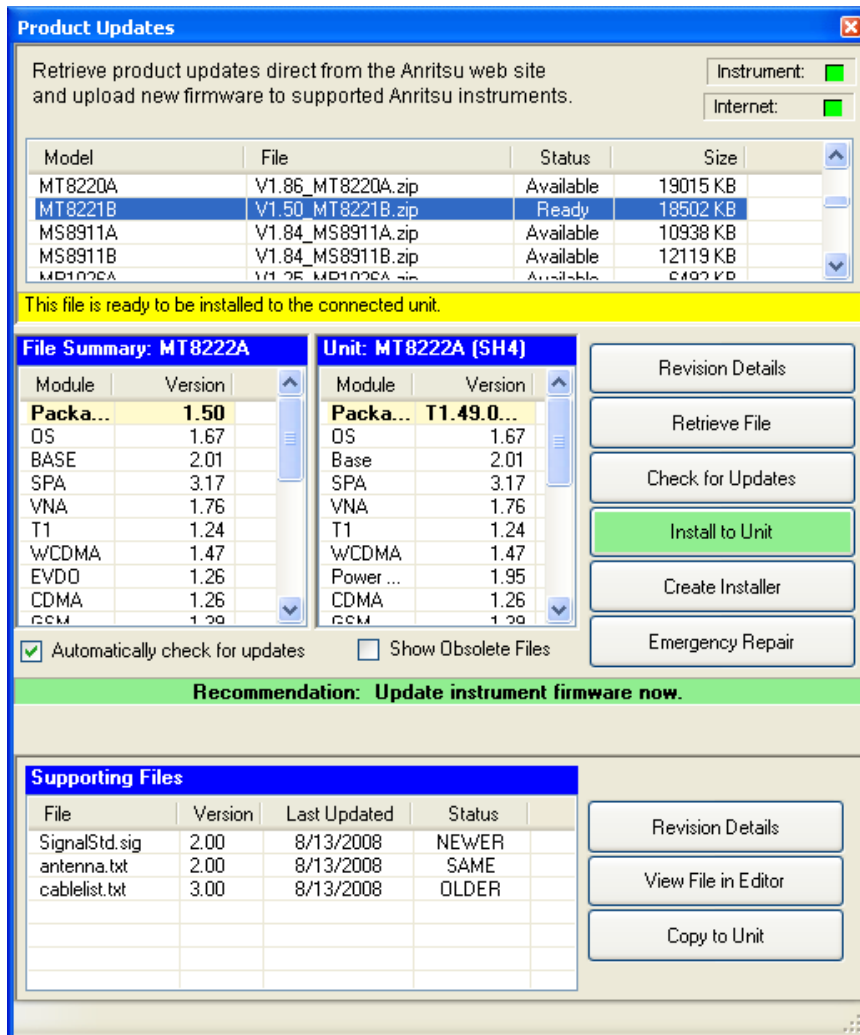
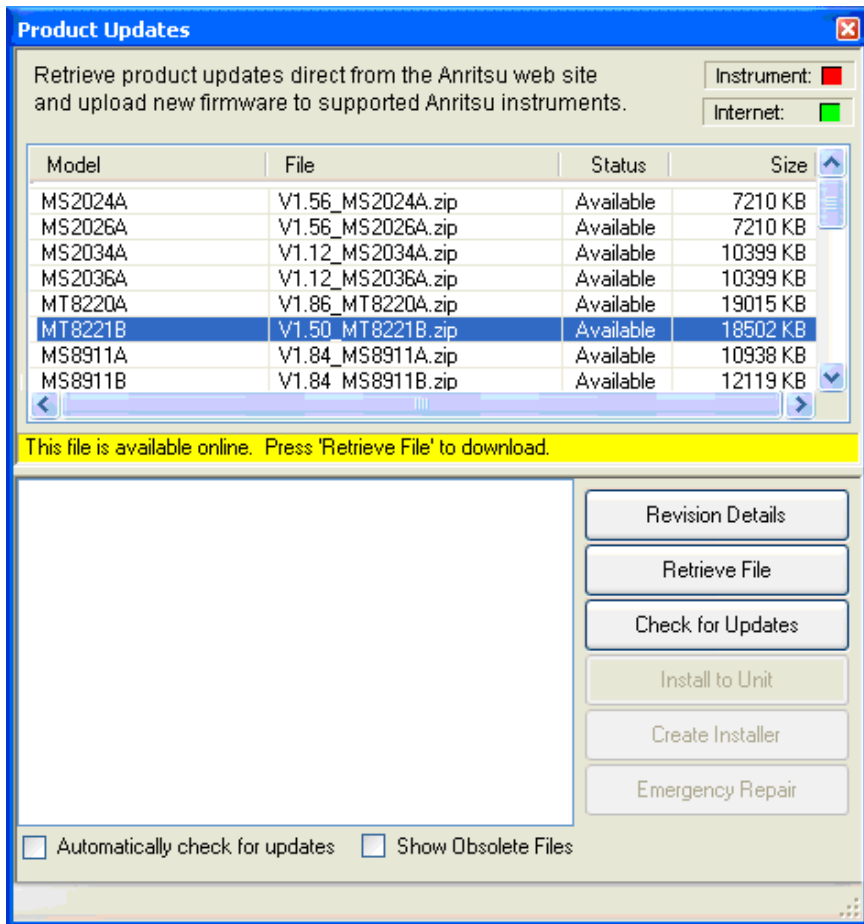

Figure 7-3. Product Updates Window: Status Ready
Figure 7-4. Product Updates Window: Status Available
5. Notice the differences in the two Product Updates windows in Figure 7-3 and Figure 7-4.
In Figure 7-3, the status of the highlighted file is Ready, and the Install to Unit button is active. You can immediately click Install to Unit to update your Spectrum Master with the new firmware.
In Figure 7-4, the status of the highlighted file is Available, and the Install to Unit button is gray and inactive. This means that the updated file is on the Anritsu Product Support Web site and needs to be downloaded to your PC. After the file has been downloaded and placed on your PC, its status changes to Ready, and the Install to Unit button becomes active.